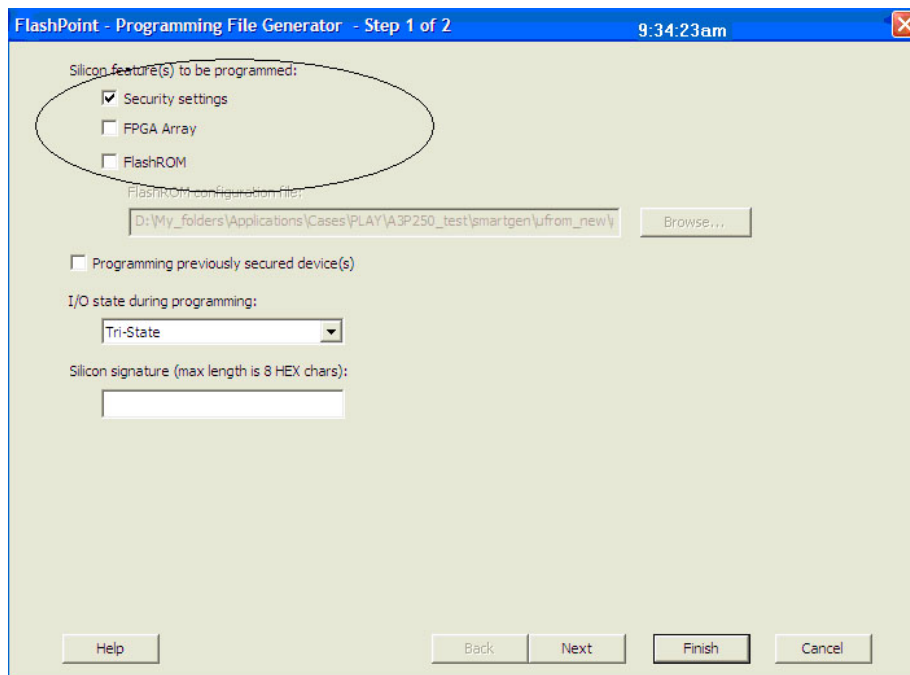
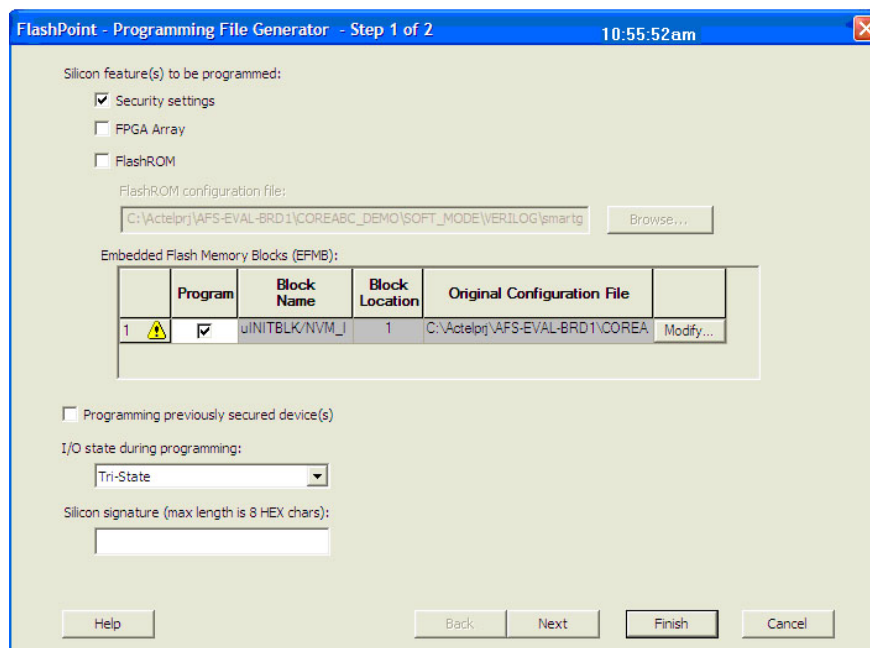

Figure 11-14 • Programming IGLOO and ProASIC3 Security Settings Only
Figure 11-15 • Programming Fusion Security Settings Only
1. Select only the **Security settings** option, as indicated in Figure 11-14 and Figure 11-15 on page 268. Click **Next**.